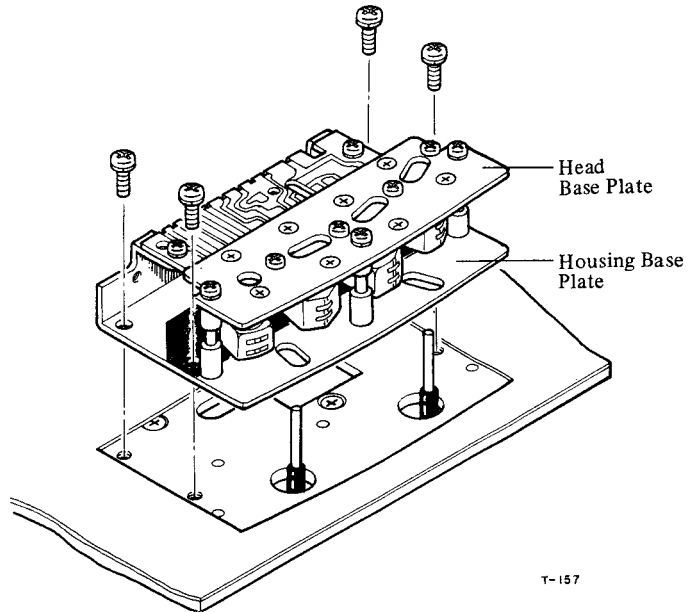

Fig. 4-2 Head Ass'y Removal
4. If necessary, remove Housing Base plate by 4 screws. See Fig. 4-2.